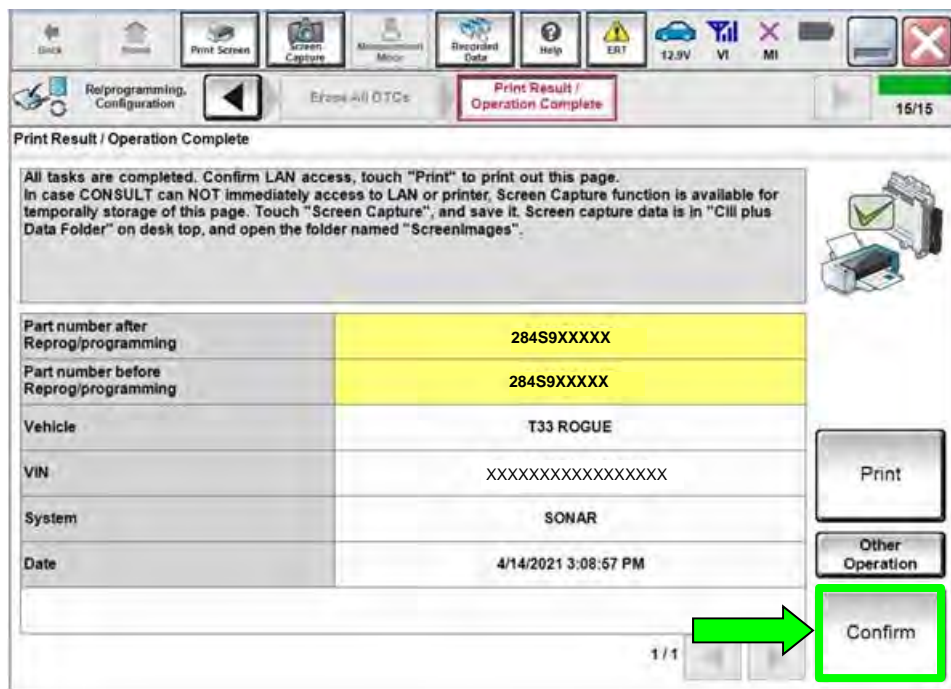

Figure 30
HINT: When the entire reprogramming process is complete, the screen in Figure 30 will display.
42. Print a copy of the screen below (Figure 30) and attach it to the repair order for warranty documentation.